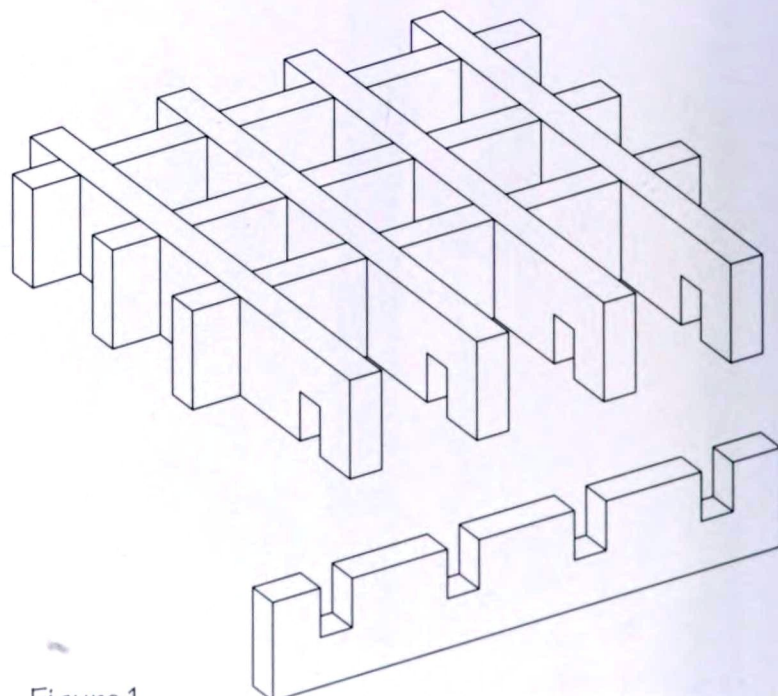

Figure 1
4. Switch to a good crosscut blade on the table saw, and use a drop stop to cut at least eight grid strips (A) 4" long (see Drop Stops, Jigs, and Fixtures on page 12).
5. Put the $\frac{1}{4}$ " dado blade back on the table saw. To make a grid with $\frac{3}{4}$ " square openings and $\frac{3}{8}$ " stubs on the outside, you need to cut slots halfway through the grid strips (A), $\frac{3}{8}$ " and $1\text{--}\frac{3}{8}$ " from each end. First, set the height of the dado blade to a little over $\frac{3}{8}$ ". Cut a slot in each of two extra or cut-off strips. Slide the two slots together. Adjust the height of the dado blade until the test strips go together a little past flush. A very little.
8. Apply a small drop of cyanoacrylate glue to the bottom of each slot in eight grid strips. Assemble the grid quickly and allow the glue to cure (see figure 1).